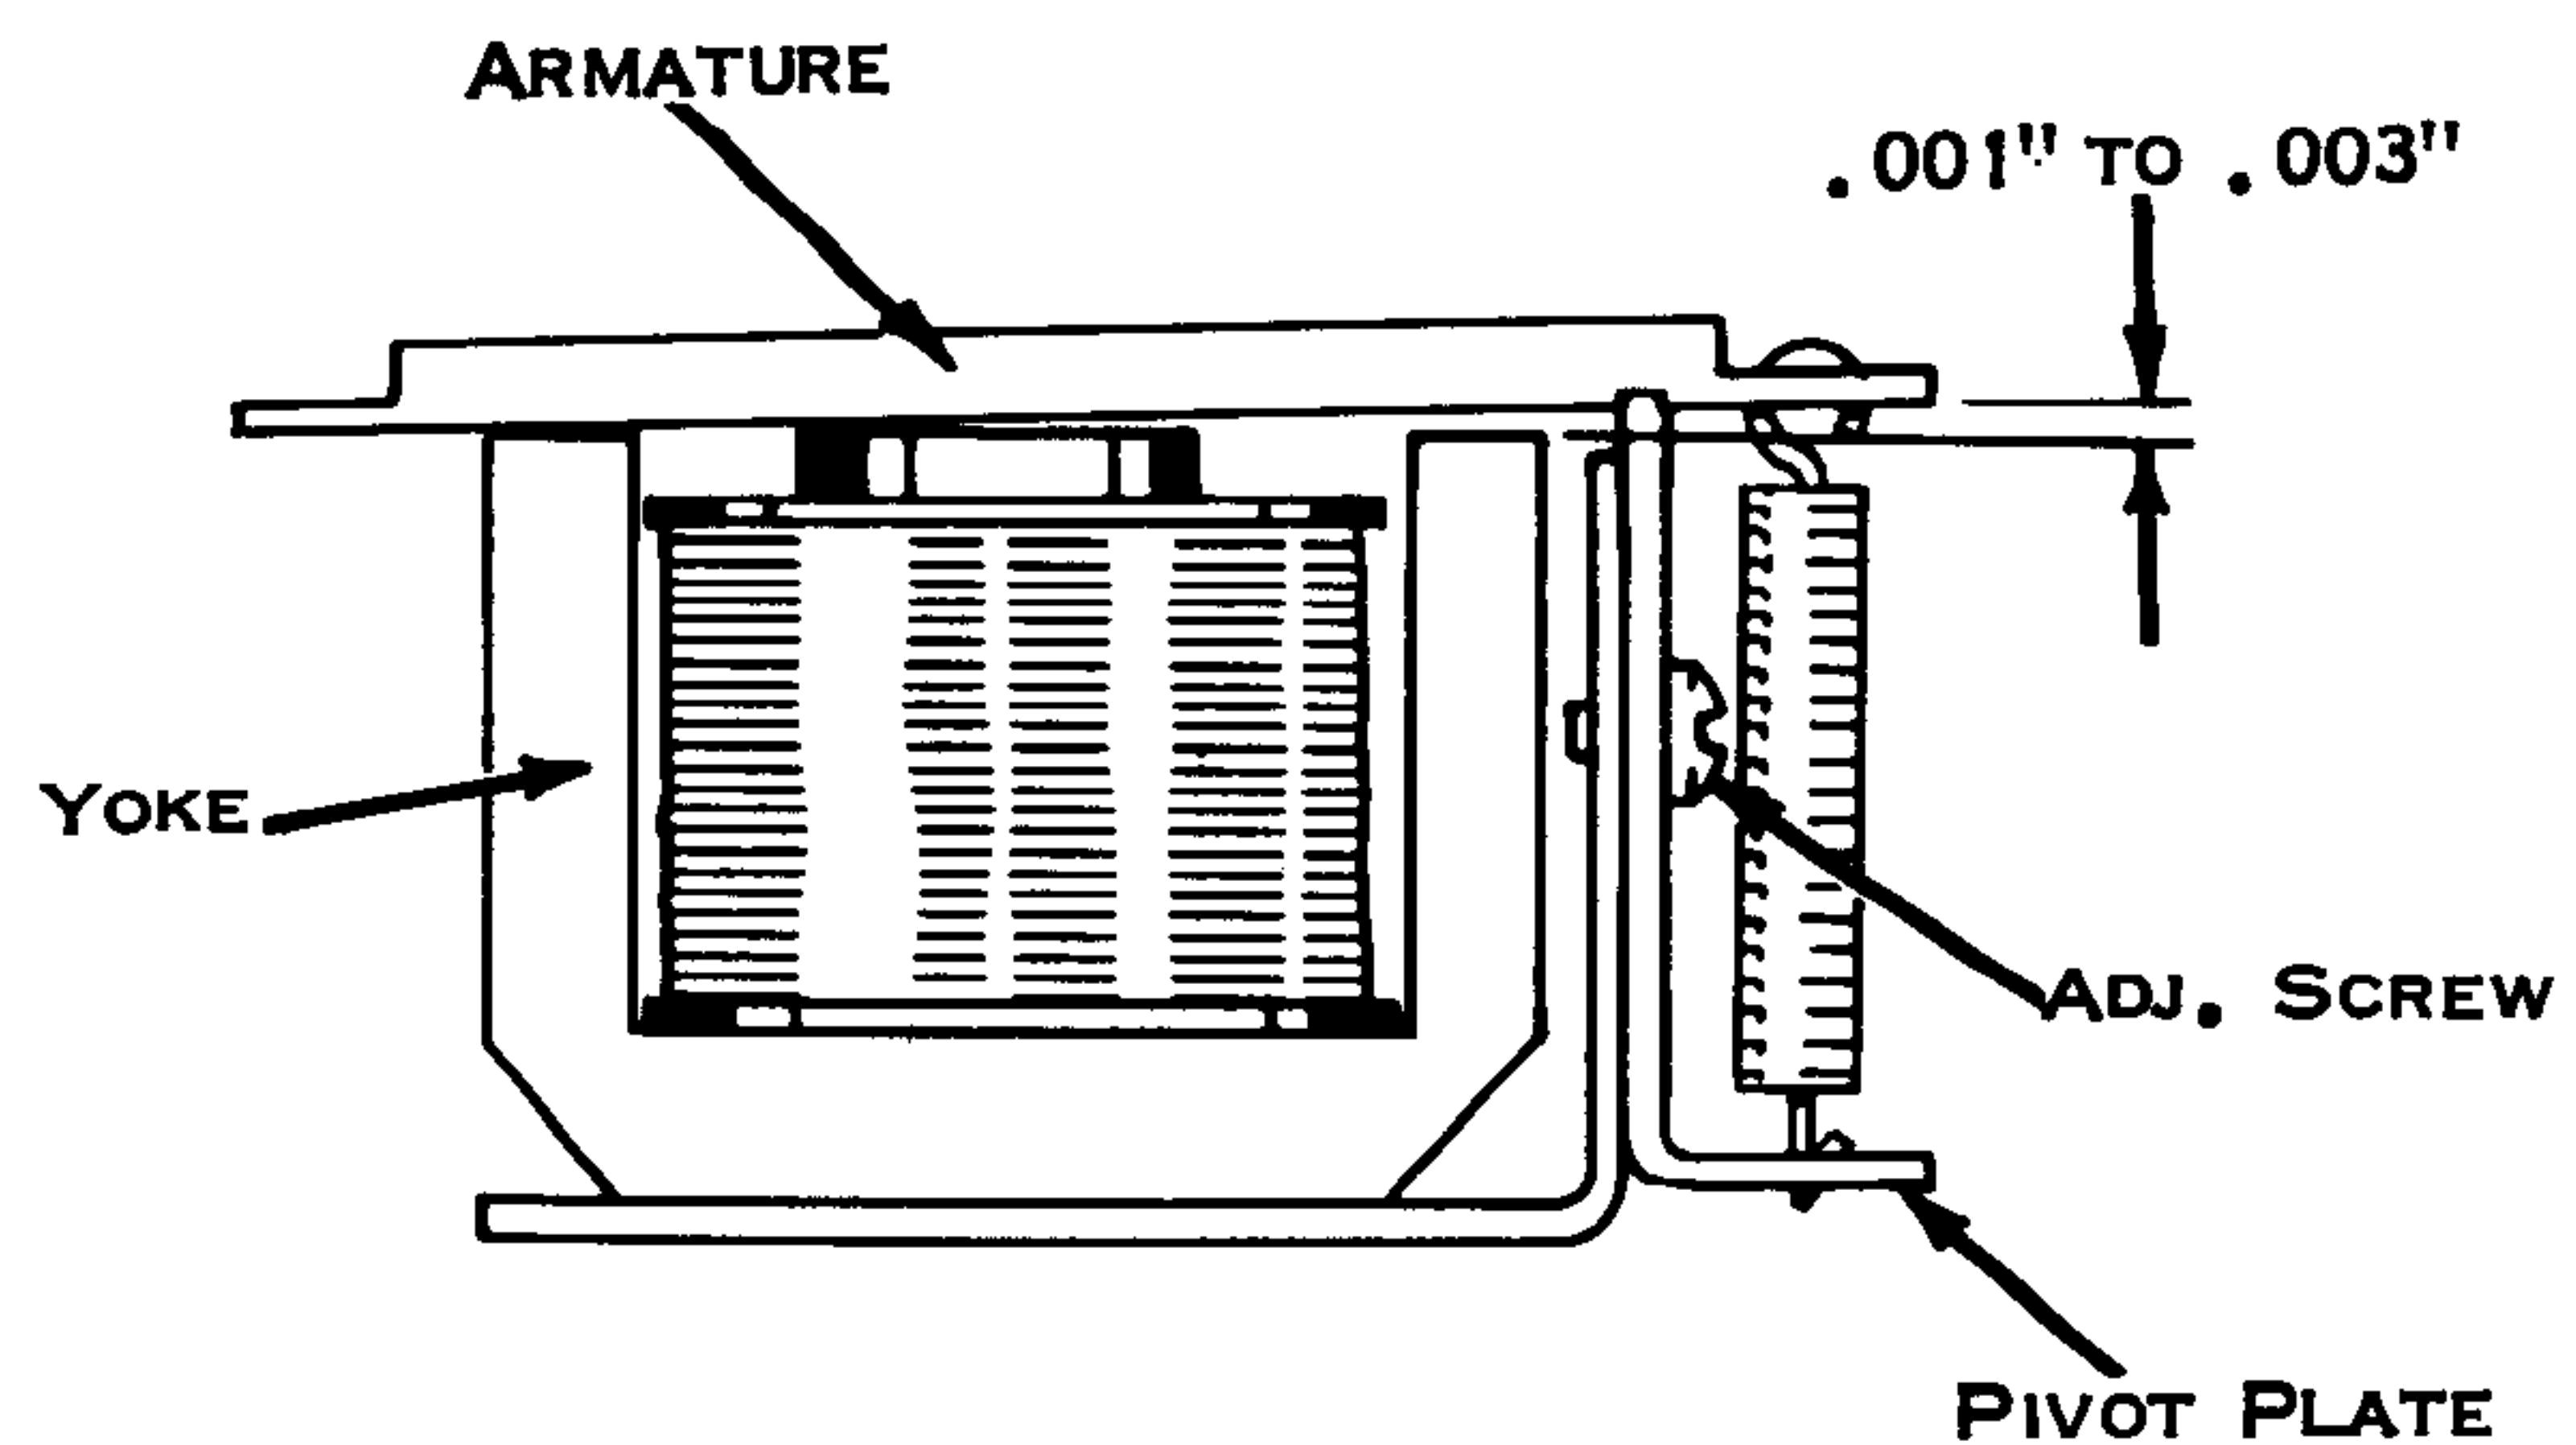

Figure 129. Pivot Plate
2. Carrier Return And Space Bar Magnet Pivot Plate (Fig. 129) - Position as follows: